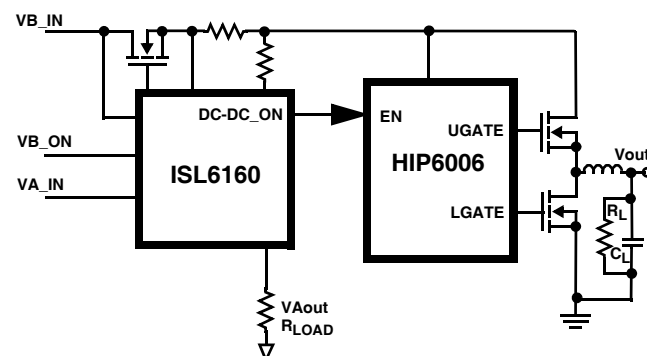
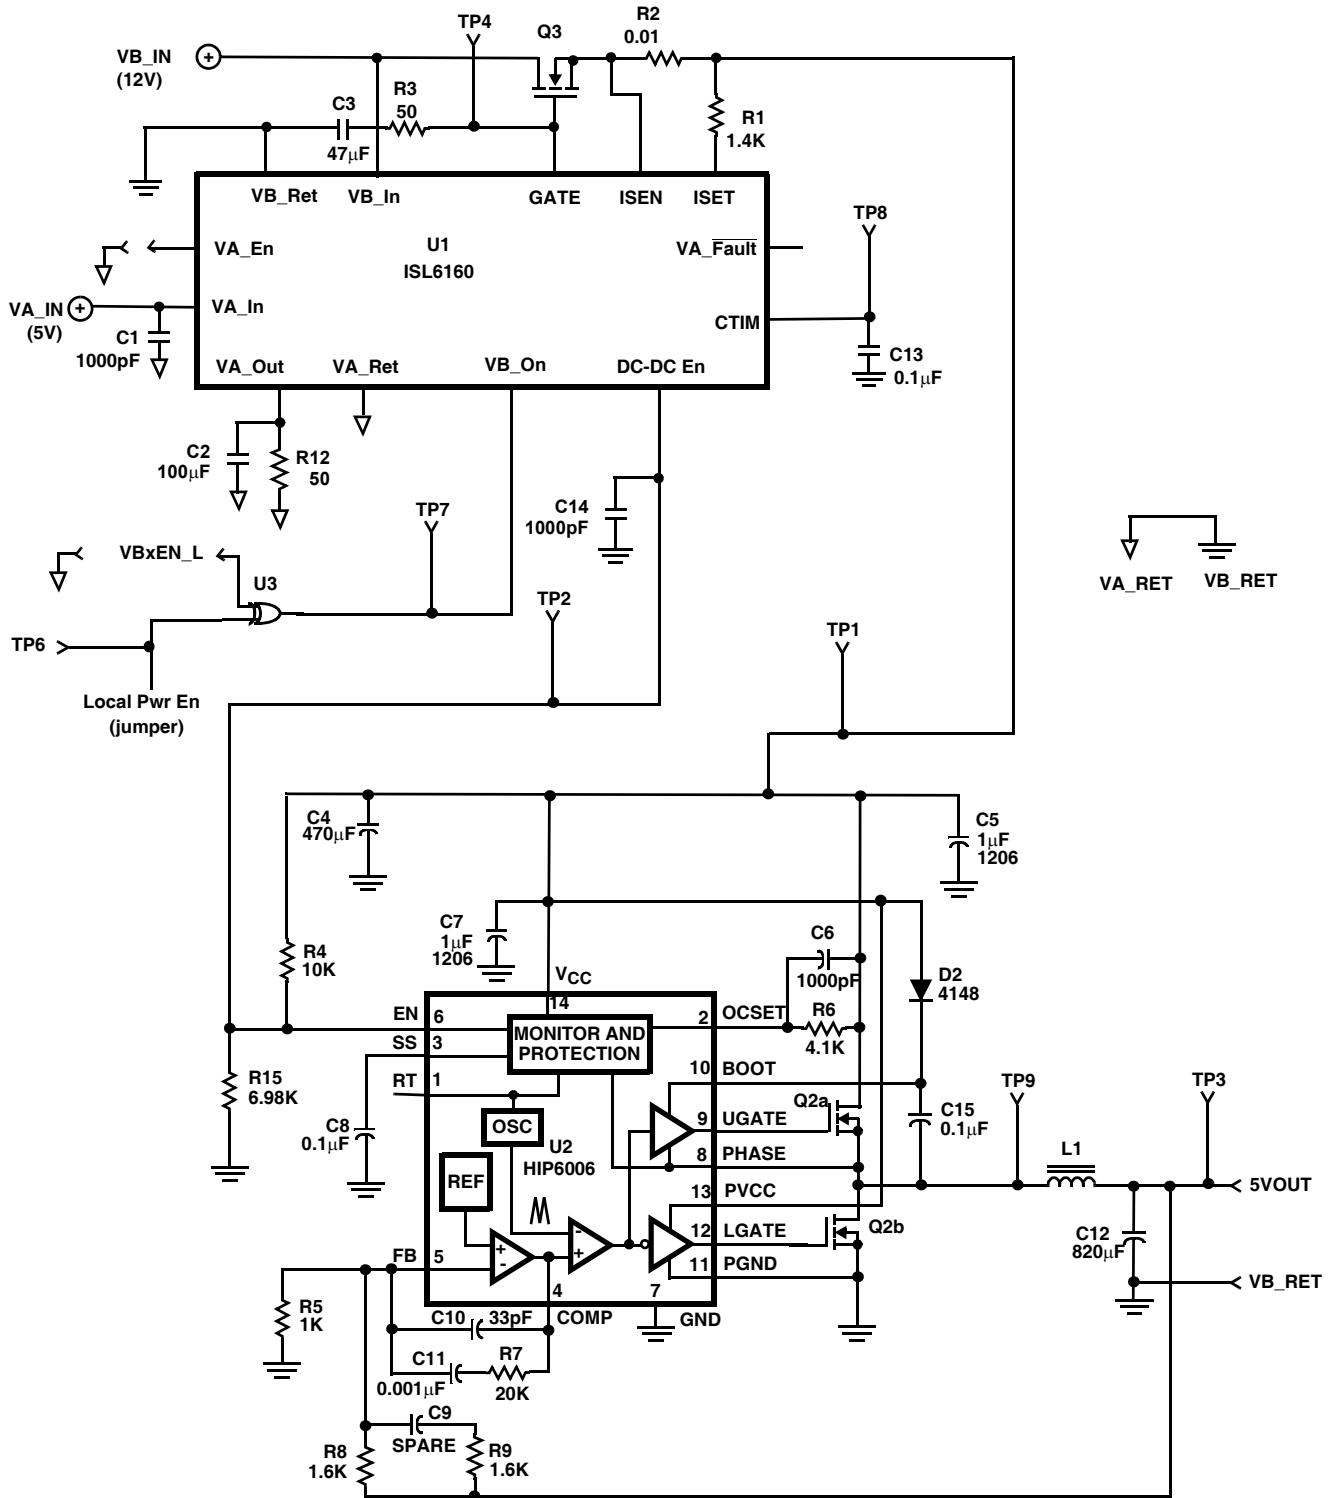

FIGURE 1. ISL6160EVAL2 BLOCK DIAGRAM
FIGURE 11. ISL6160EVAL2 SCHEMATIC
Intersil also provides the ISL6160EVAL2 concept evaluation platform. The ISL6160EVAL2 is a complete InfiniBand Class I (non isolated) power topology evaluation platform which highlights the operation of the ISL6160 and the HIP6006 single output PWM controller. See Figure 1 for a simplified block diagram of the ISL6160EVAL2 platform. This evaluation platform allows the InfiniBand Module (IM) power supply designer to evaluate the concept of this design and apply this concept to a specific IM power requirement. The evaluation platform is configured for 5V Vout and 3.5A max Iout capability where it exhibits an efficiency of 85%, all in a small 1.6 sq" area. See Figure 11 for a complete ISL6160EVAL2 schematic.
The HIP6006 has a loss less overcurrent (OC) protection feature. This is accomplished via the current-sense function of the HIP600x family. The HIP6006 senses converter load current by monitoring the drop across the upper MOSFET (Q2a in the Figure 11 schematic) enhancing the converter's efficiency and reducing cost by eliminating a current sensing resistor.